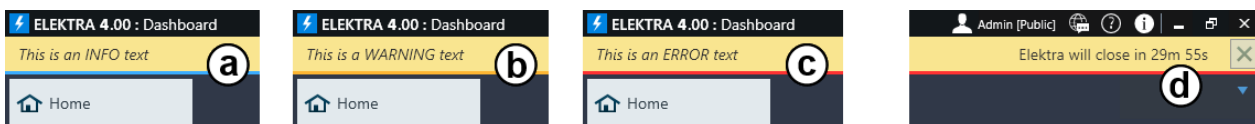

Figure 4-187: Examples of messages as seen in a remote client
As a remote client, you can delete an "Info", "Warning" or "Error" message (labeled a to c in Figure 4-187) by clicking the "X" button at the far right of message dialog. You cannot delete a shutdown message (d), where the "X" button is disabled.
When you select "Close All Clients" (6), each client gets your shutdown message with red underline. Also, the clients get a countdown that shows the remaining days, hours, minutes and seconds at the far right of the message dialog, see (d) in Figure 4-187. While a closing procedure is running, you cannot send other messages.